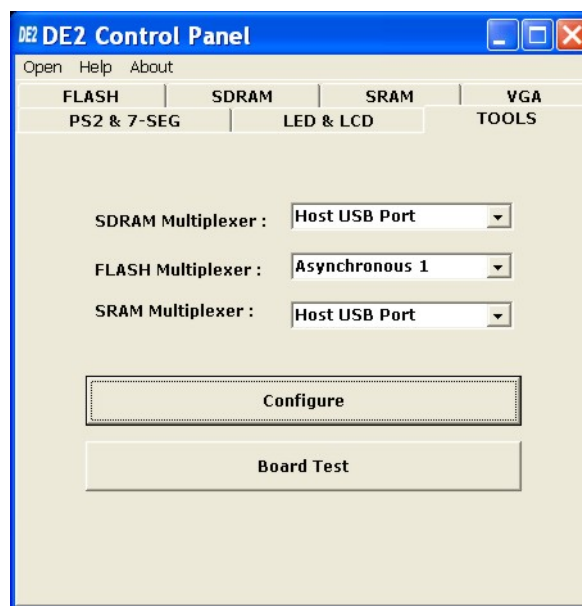

Figure 3.8. TOOLS window of the DE2 Control Panel.
2. In the DE2 Control Panel, select the TOOLS tab to reach the window in Figure 3.8.